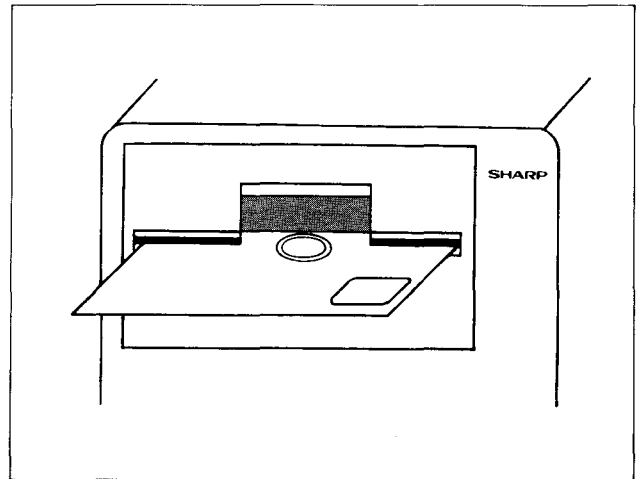

Fig. 6 Operation 2
3. Insert the diskette: put it with its label up into the drive and push it till it will go no more. For the inserting direction, see Figure 6.